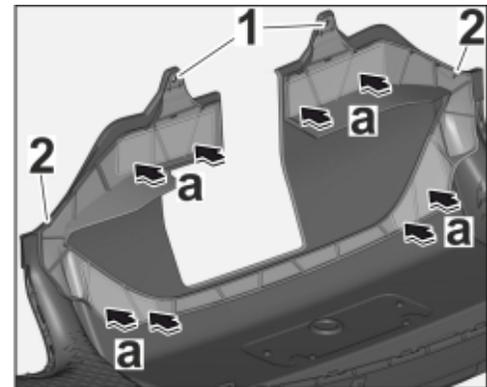

Figure 24
4.1.7 Insert reinforcement perfectly into the rear panel. Fastening bores (⇒ Figure 24 -1-) and bores for expansion rivets (⇒ Figure 24 -2-) must be covered exactly.
4.1.8 Press reinforcement firmly onto the rear panel (⇒ Figure 24 -a-).